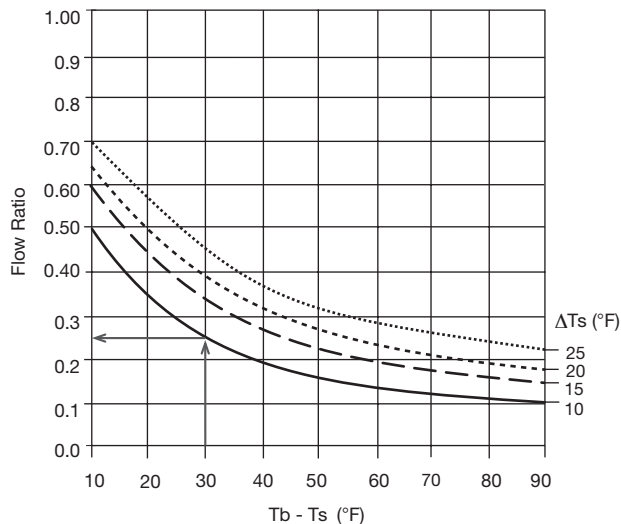

Figure 2
3. Compute  $T_b - T_s$ . Look up the ratios in Figure 2.